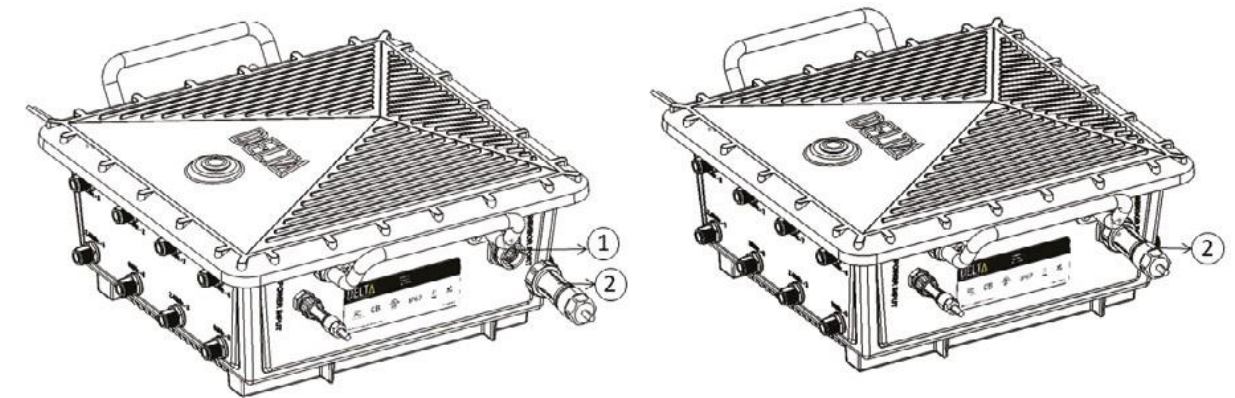

Figure 29: Connecting sensor cabling
- d. Connect the sensor connector to the hyperSPROUT™ smarthub as shown in Figure 29. See Figure 30 for final assembly representation.